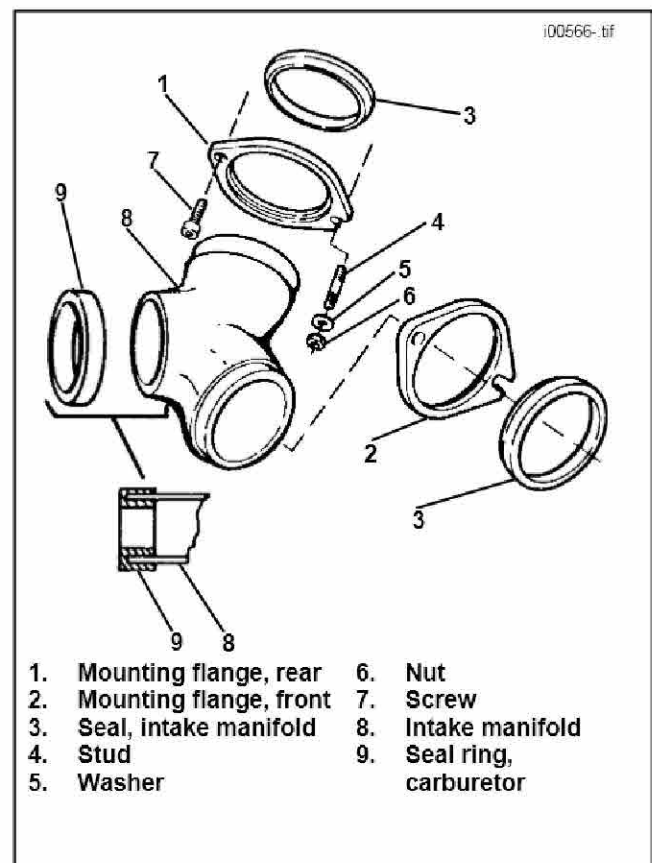

Figure 4. Aluminum Manifold Assembly
1. See Figure 4. Place flanges (1) and (2) removed from original manifold onto aluminum manifold (8).
2. Place new intake manifold seals (3) onto each spigot of manifold with chamfered edge against flanges (1) and (2).
3. Place channel of seal ring (9) over inlet end of manifold.
4. Position manifold (8) against intake ports of cylinder head with slotted hole in flanges (1) and (2) around studs (4) in cylinder head. Place washers (5) on studs (4). Loosely thread nuts (6) on studs (4). Insert Allen screws (7) through manifold flanges (1) and (2) and loosely thread into tapped holes in cylinder head.
8. See Figure 4. Tighten manifold flange nuts (6) and Allen screws (7) to 6-10 ft-lbs.